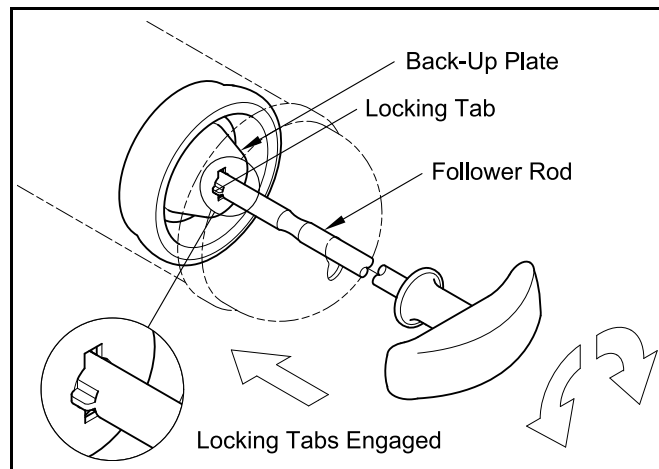

Figure 2 Follower Rod Engaged with Back-Up Plate
1. Pull Follower Rod out then rotate to latch Rod onto follower. See **Figure 2**.